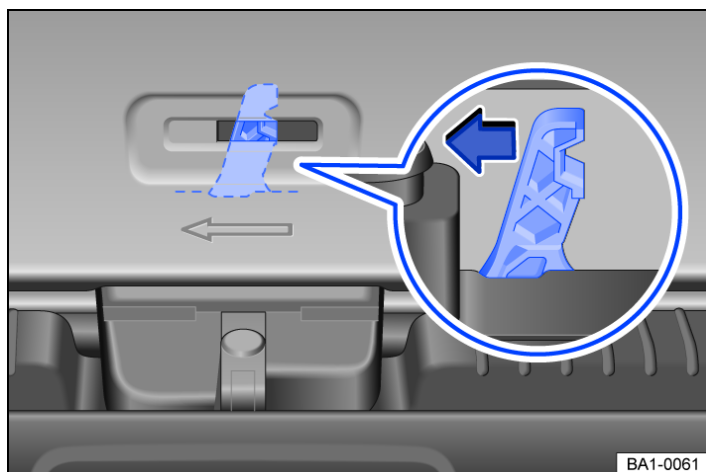

Fig. 1 In the luggage compartment: service opening in the boot lid.
1. Insert a suitable object into the service opening in the boot lid → *Fig. 1* and press the release lever in the direction of the arrow.